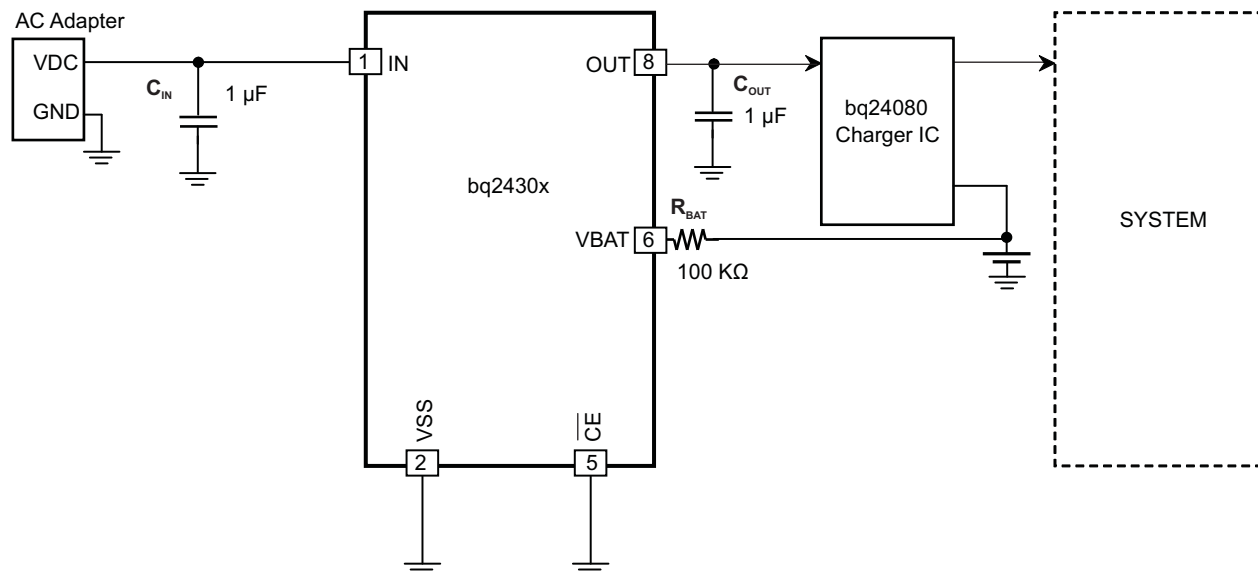
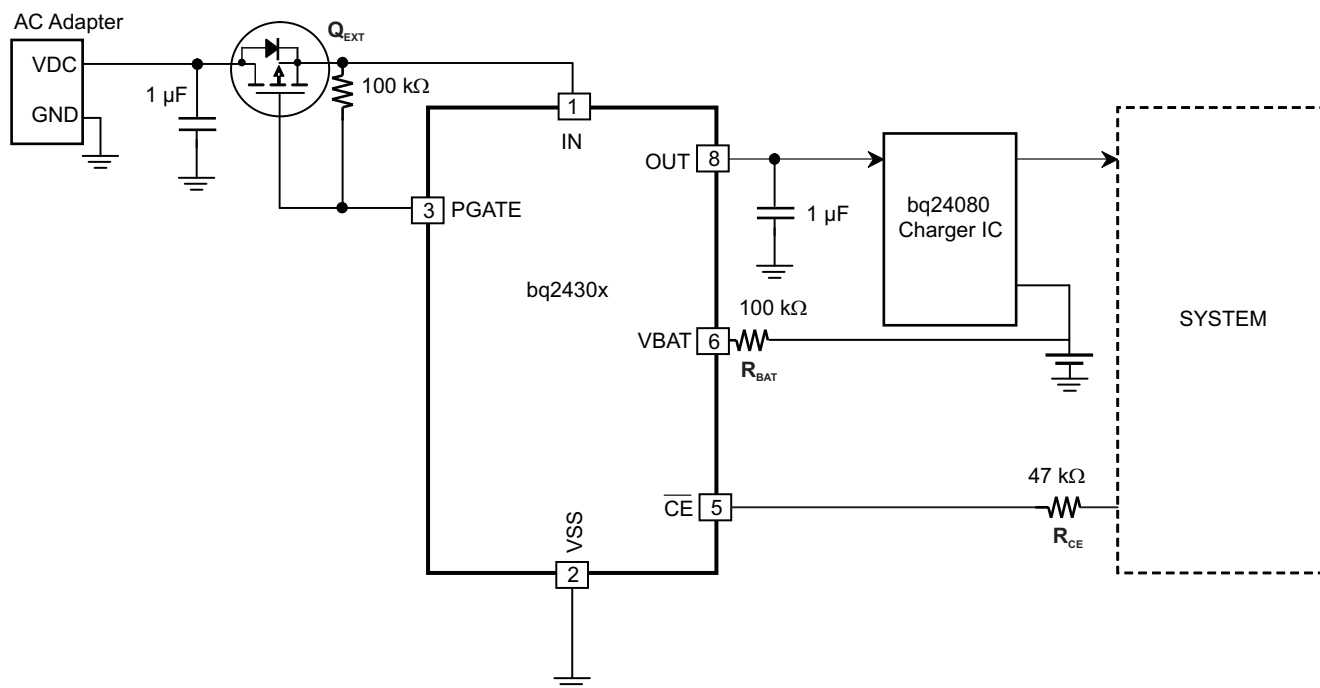

Figure 22. Overvoltage, Overcurrent, and Battery Overvoltage Protection
Figure 23. OVP, OCP, BATOV, and Input Reverse-Polarity Protection
Test conditions (unless otherwise noted) for typical operating performance are: $V_{IN} = 5\text{ V}$, $C_{IN} = 1\text{ }\mu\text{F}$, $C_{OUT} = 1\text{ }\mu\text{F}$, $R_{BAT} = 100\text{ k}\Omega$, $R_{OUT} = 22\text{ }\Omega$, $T_A = 25^\circ\text{C}$ (see Figure 22 - Typical Application Circuit)
The input capacitor C_{IN} in Figure 22 and Figure 23 is for decoupling, and serves an important purpose. Whenever there is a step change downwards in the system load current, the inductance of the input cable causes the input voltage to spike up. C_{IN} prevents the input voltage from overshooting to dangerous levels. It is strongly recommended that a ceramic capacitor of at least 1 μF be used at the input of the device. It should be located in close proximity to the IN pin.
C_{OUT} in Figure 23 is also important: If a fast (< 1 μs rise-time) overvoltage transient occurs at the input, the current that charges C_{OUT} causes the device's current-limiting loop to kick in, reducing the gate-drive to FET Q1. This results in improved performance for input overvoltage protection. C_{OUT} should also be a ceramic capacitor of at least 1 μF , located close to the OUT pin. C_{OUT} also serves as the input decoupling capacitor for the charging circuit downstream of the protection IC.
- Added device bq24305 to the data sheet - Changed the bq24305 marking in the Ordering Information table From CHD To: DSG - Changed Figure 22, Overvoltage, Overcurrent, and Battery Overvoltage Protection - Changed Figure 23, OVP, OCP, BATOVF With Input Reverse-Polarity Protection	1 2 12 12
- Deleted Lead temperature (soldering, 10 seconds) from the Abs Max table. This is covered in the Package information. - Changed Recommended Operating Conditions, Input voltage range - MAX value From 30V To: 26V - Changed BV_{OVP} test conditions - From: $\overline{CE} = \text{Low}$, $V_{IN} > 4.3V$, V_{VBAT} increasing To: $\overline{CE} = \text{Low}$, $V_{IN} > 4.4V$, V_{VBAT} increasing - Changed $V_{HYS-BOVP}$ test conditions - From: $\overline{CE} = \text{Low}$, $V_{IN} > 4.3V$, V_{VBAT} decreasing To: $\overline{CE} = \text{Low}$, $V_{IN} > 4.4V$, V_{VBAT} decreasing - Changed the Gate driver clamp voltage Typ value From: 14V To: 15V and the Max value From: 15V To: 17V - Changed Figure 23, OVP, OCP, BATOVF With Input Reverse-Polarity Protection - Changed section - Selection of R_{BAT} text From: $(30V - 3V) \times 100k\Omega = 246\mu A$ To: battery would be $(30V - 3V) \div 100k\Omega = 270\mu A$	2 2 3 3 3 12 16